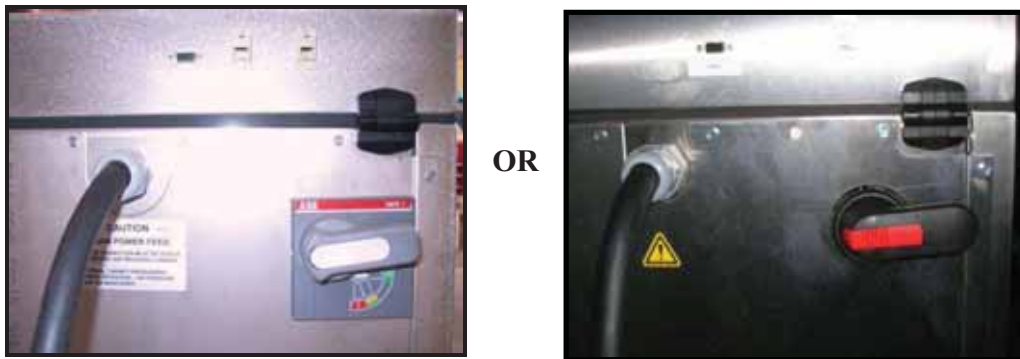

Figure 8 Electrical Interfaces on the Rear Panel
2. Feed the power and ground cables through the AC Power Feed (Refer to Figure 8).